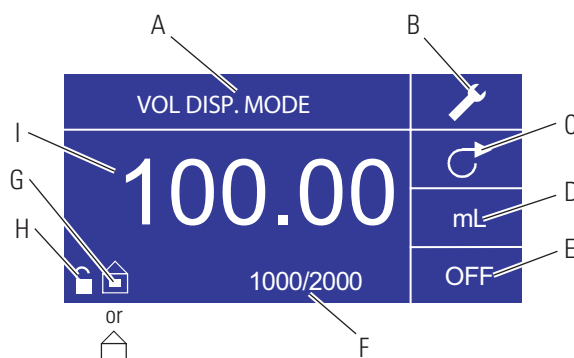

Figure 3-10. Volume Dispense Mode Screen
6. **Setting Pump OFF Time:** Use the directional pad and ENTER key to select OFF on the display (see position E, Figure 3-10) to enter the OFF TIME. Use the directional pad and ENTER key to set the pump rest time. The timer in the center of the screen will be highlighted, and using the UP/DOWN arrows will increase/decrease the farthest right digit of the time interval. If ENTER is pressed a second time while the timer is highlighted, the digits can be navigated individually using the UP/DOWN arrows; switch between digits using the LEFT/RIGHT arrows. After selecting an optimal OFF time, press ENTER again to validate. The drive will now rest for the time appearing in the center of the screen. **NOTE:** If the OFF Time is set to 00:00:00, the drive requires a START/STOP input from the keypad or the remote IO Connector to start the next dispense.
7. **Setting Batch Size:** Use the directional pad and ENTER key to select the Batch Count icon from the operation screen (see position F, Figure 3-10). From Batch Count screen use the UP/DOWN arrows to select batch size. Press ENTER to validate batch size. When set to zero (0) the drive will run for an infinite number of cycles and the ∞ symbol is displayed. Select EXIT to return to drive operation screen.
9. **Reset Batch Count:** Use the directional pad and the ENTER key to select the BATCH COUNT icon (see position F, Figure 3-10). In the BATCH COUNT screen, select RESET and press the ENTER key to reset the batch count. Select EXIT to return to the COPY MODE OPERATION screen.